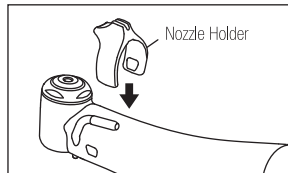

Fig. 5
1) Attach the Nozzle Holder. (Fig. 5)